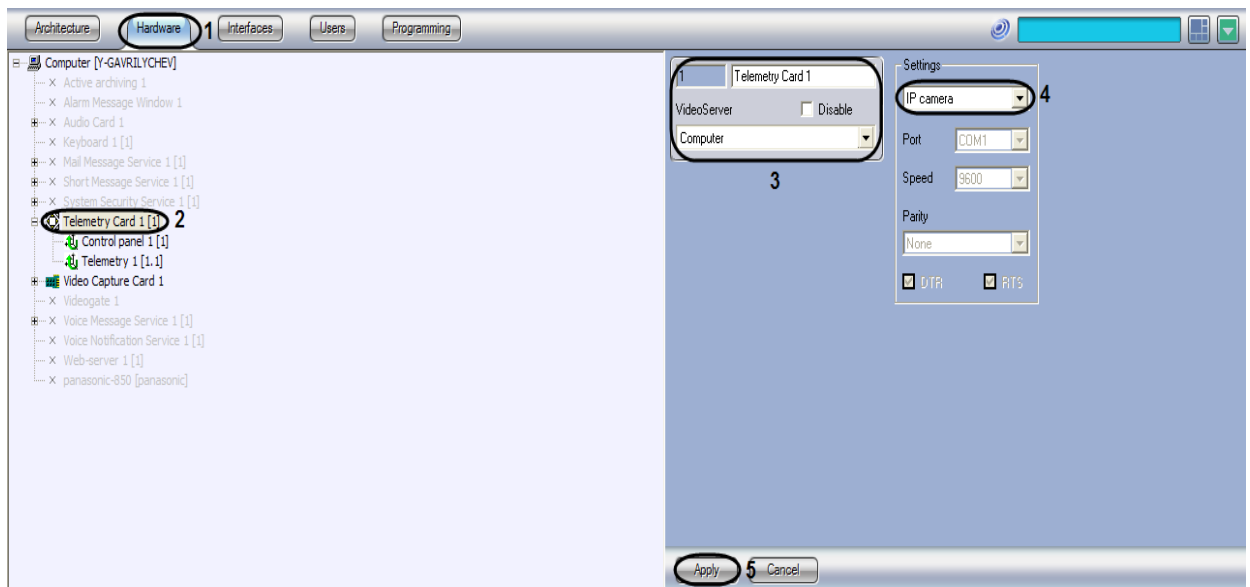

Figure 3.4-9 The setting panel of the Telemetry card object
1. Go to the **Hardware** tab in the **System settings** dialog box (Figure 3.4-9, 1).
2. Create the **Telemetry card** system object under the **Computer** object or select the relevant object on the **Hardware** tab in the **System settings** dialog box (Figure 3.4-9, 2).
3. Enter the ID, the name of the **Telemetry card** object and select the Server connected via the COM port with the PTZ device (Figure 3.4-9, 3)
4. Choose the data exchange protocol from the list. To use TCP/IP protocol for the data exchange with a PTZ IP-camera, select **IP camera** as the protocol (Figure 3.4-9, 4).
5. To save the changes click **Apply** (Figure 3.4-9, 5).